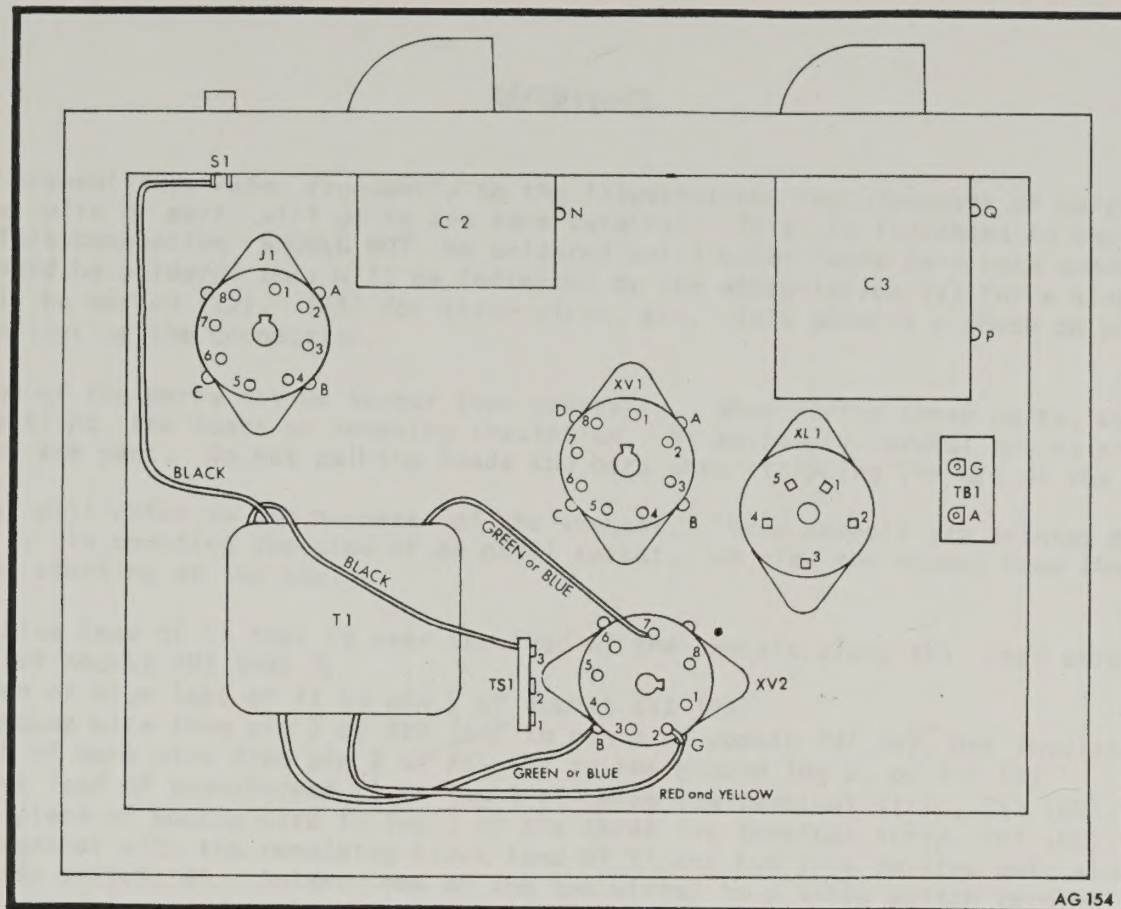

FIGURE 1: OUTLINE DRAWING - BOTTOM VIEW
2. Mount J1, an 8 pin octal socket, in the position indicated in Figure 1. The key (slot) in the socket should be positioned exactly as shown. Use a 6-32 x 1/4 screw, a #6 lockwasher and a 6-32 nut for each mounting hole. Insert the screw into the top of the chassis and the lockwasher between the socket and the nut.
3. Mount XV1, an 8 pin octal socket, in the position shown in Figure 1. Use hardware and mounting procedure as in Step 2. Note the position of the key of the socket.
4. Mount XV2, an 8 pin octal socket, in the position shown in Figure 1. The key (slot) should be positioned exactly as shown. Use hardware and mounting procedure as in Step 2 except on the screw nearest the power transformer; after the lockwasher is in place, mount the three lug terminal strip, TS1, then a lockwasher and a nut. Be sure the terminal strip is in the position shown in Figure 1 after tightening the nut.
5. Mount XL1, a 5 prong socket, in the position shown in Figure 1. Use hardware and mounting procedure as in Step 2. Socket XL1 does not have a key but can be mounted correctly by observing the position of the five terminals in Figure 1.
6. Mount TB1, a 2-screw terminal strip, in the position shown in Figure 1. TB1 is mounted on top of the chassis. Use hardware as in Step 2. Place the lockwasher between the chassis and the nut. The solder lugs of the terminal strip face the center of the chassis.
7. Mount T1, the power transformer, in the position shown in Figure 1. Note that the two black transformer leads are near J1, towards the front panel. Fasten T1 in place with 4 #8 lockwashers and 4 #8-32 nuts.